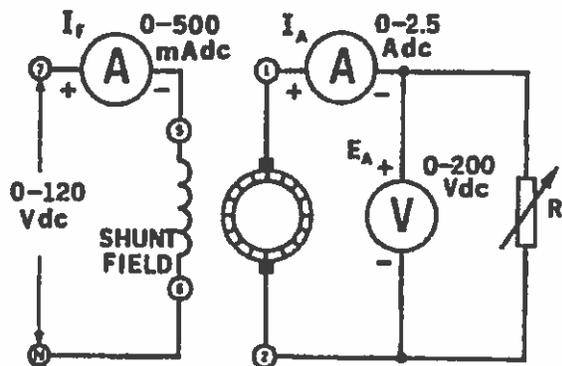

Figure 27-3.
- 9. Using your Resistive Load, connect the circuit shown in Figure 27-3. Place the resistance switches so that the total load resistance is 120 Ω .